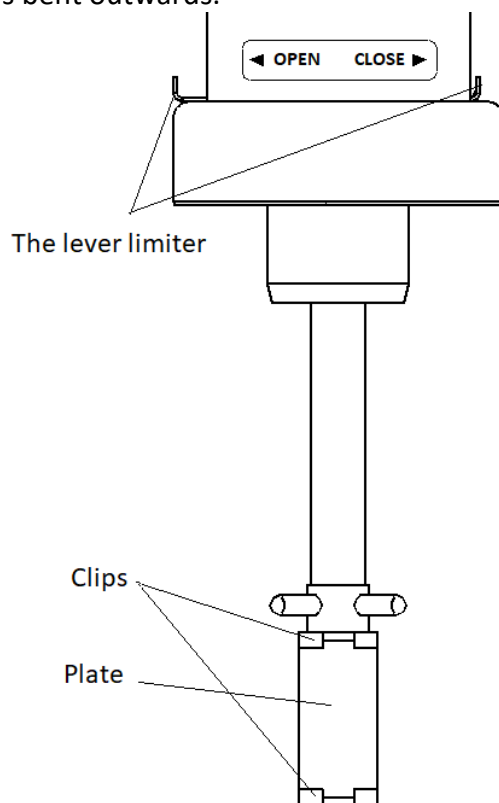

Figure 11 - Installing a bitumen sample
- Move the distance limiter lever between the clips to the «**Open**» position (see figure 11).